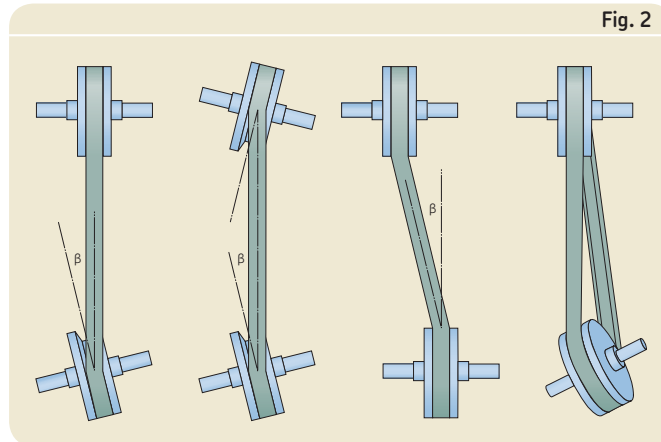

Fig. 2
- 1 Pulleys are properly aligned. Maximum allowable misalignment  $\beta$  is  $0,3^\circ$  or 5 mm / 1 m of centre distance. Values greater than those listed will reduce the belt service life and cause edge wear. Misalignment is represented by the ways shown in **fig. 2**. A straight edge should be used to check proper alignment as in **fig. 3**.